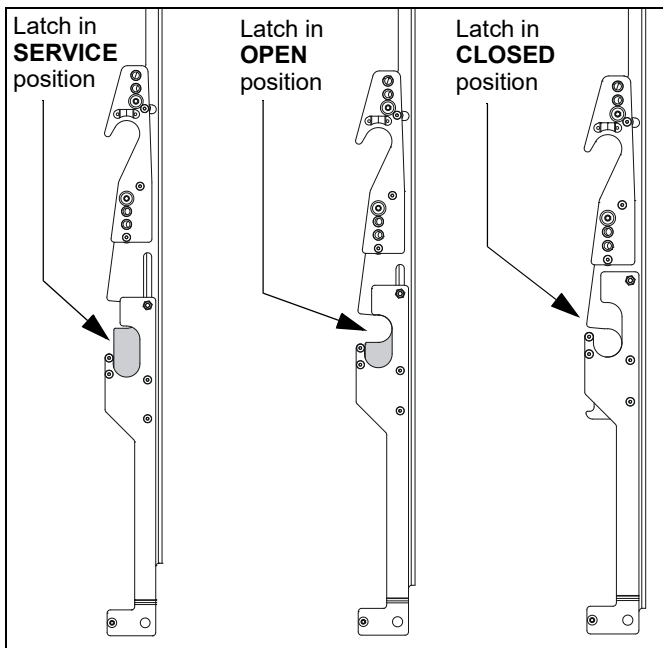

Figure 11
**IMPORTANT !** : Completely extend bottom of interface brackets (by pulling downward) to set interface brackets in **SERVICE** position before hanging on top rail. (See Figure 11)
- Open latch by pushing bottom of interface bracket up to **OPEN** position, latching interface brackets to lower rail, and then push up from bottom of interface bracket again until the interface bracket is in **CLOSED** position. (See Figure 11) and (See Figure 12)
1. With interface brackets in **CLOSED** position (See Figure 11), remove two fasteners holding tilt compensation in place on each interface bracket (V and W). (See Figure 15)